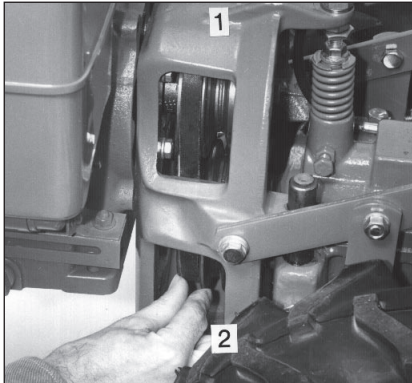

Figure 5-21: Seat belt in upper pulley, then in lower pulley (**High Range** position shown).
6. Move the top half of the belt into the **HIGH Range** groove (groove closest to the engine) on the top pulley (Figure 5-21).
7. Move the bottom half of the belt into the **HIGH Range** groove of the lower pulley (groove closest to engine— Figure 5-21). If extra slack is needed, hold up Wheels/Tines/PTO Drive Lever while moving the belt. Verify the belt is seated properly on the pulleys.